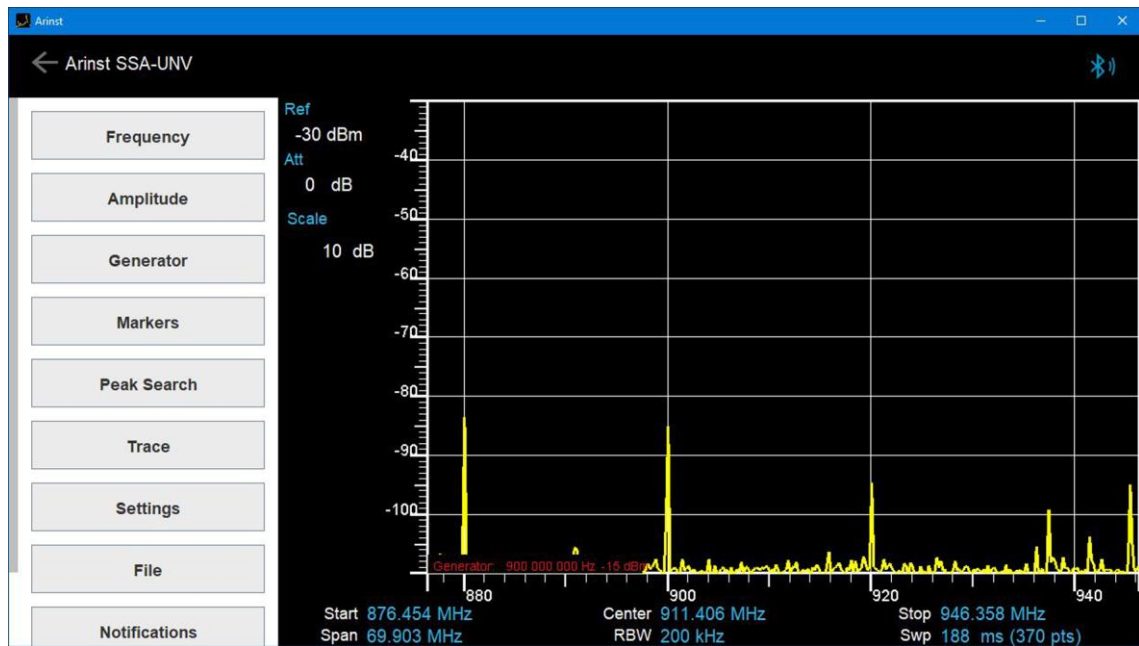

Figure A15 - Spectrum Analyzer connected to PC via Bluetooth wireless connection
4.7. Clicking on the name of the spectrum analyzer connected to the application (*in our example it is **ARINST_SSA_UNV_3997***) close the **Devices** window. The device will connect to the PC via Bluetooth data transfer protocol. The graph of the test signal will appear on the PC monitor in the Arinst SSA application (Figure A15), the screen (4) of the spectrum analyzer to save battery power will turn off. The inter-